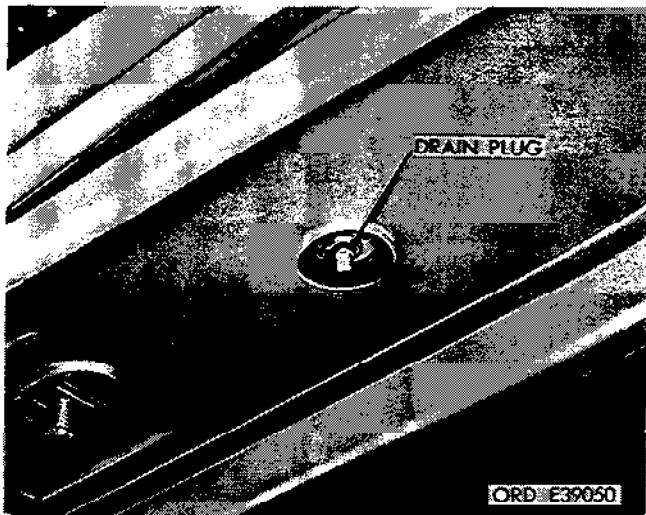

Figure 2-115. Drain fuel tank.
(3) Drain tank by removing plug (fig. 2-115).